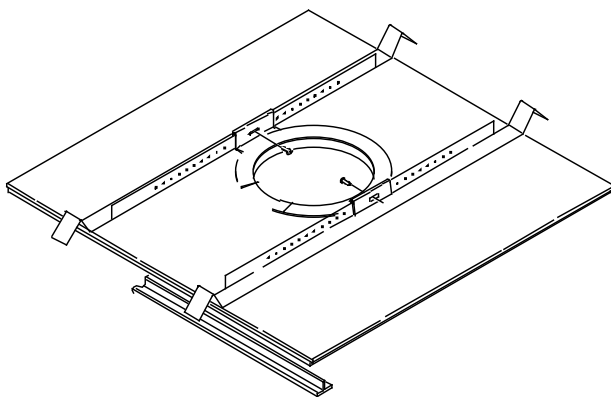

Figure 4:
**Suspended Ceilings** – Insert the C-plate through the hole cut in the ceiling tile. Place the C-plate around the hole with the tabs located as shown on Figure 4. Insert the tile rails through the cut hole in the ceiling tile. Snap the two rails into the two tabs in the C-plate and align the rails so that the ends extend OVER the T-channel grid on the side of the tile. Secure the rails onto the C-bracket tabs by inserting a screw through each tab into the rail. This can all be accomplished from below the ceiling tile, if necessary.